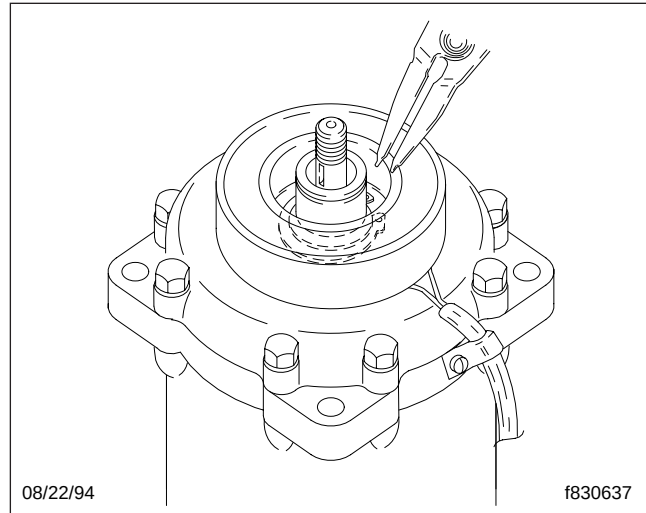

Fig. 7, Removing the Snap Ring
- 8.3 Remove the snap ring (**Fig. 7**); then, remove the coil assembly.